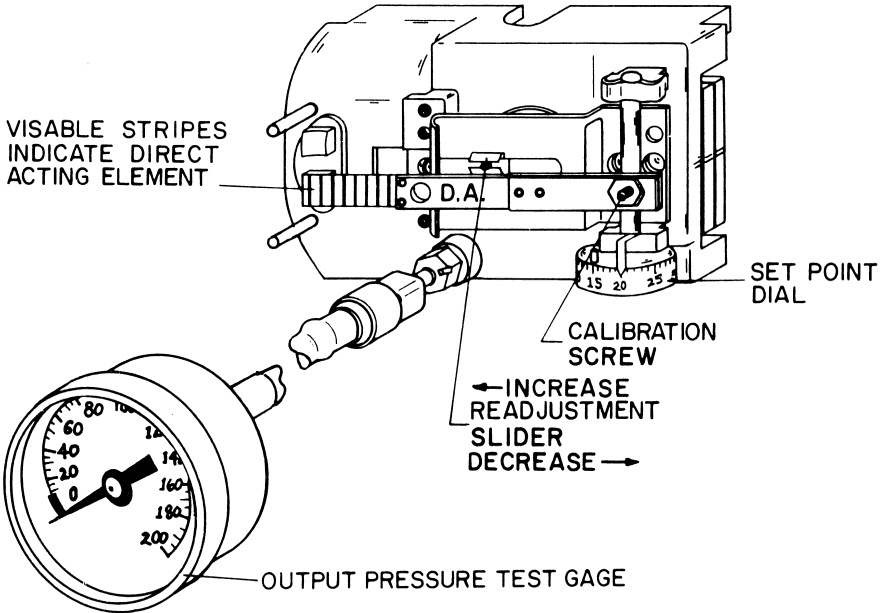

Fig. 2: T-4002 Adjustments
### Set Point Adjustment (See Fig. 2)
**Note:** This screw is not intended for set point calibration. Refer to Fig. 2.